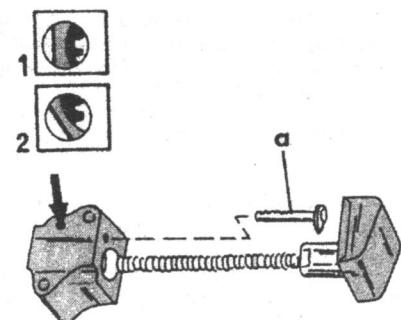

Fig. 1.37. — The Sedis chain tensioner (see text).
This is the chain tensioner shown in Fig. 1.37. Dismantle this type of tensioner as follows:
- Insert a screwdriver into the hole shown in Fig. 1.20 and turn the ratchet inside the tensioner body towards the right, *not to the left*, as shown in the illustration. The location of the hole is also shown in Fig. 1.37 by the arrow